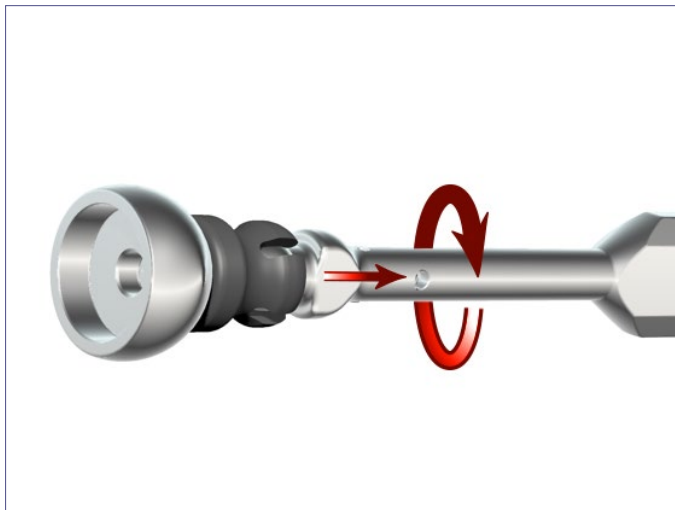

Figure 55
- ▶ To detach the Glenosphere Holder/Impactor from the Glenosphere after it has been impacted in place, unthread the instrument counter-clockwise until it is free [Figure 55].